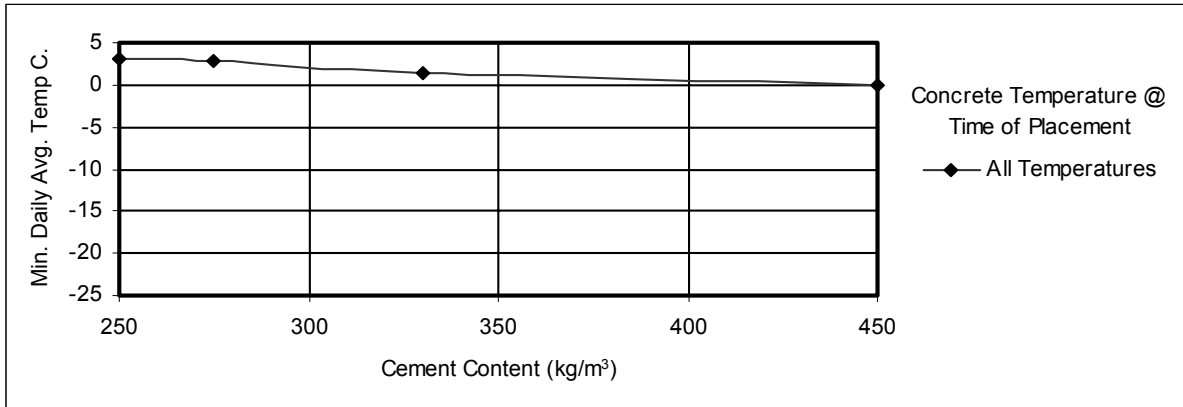
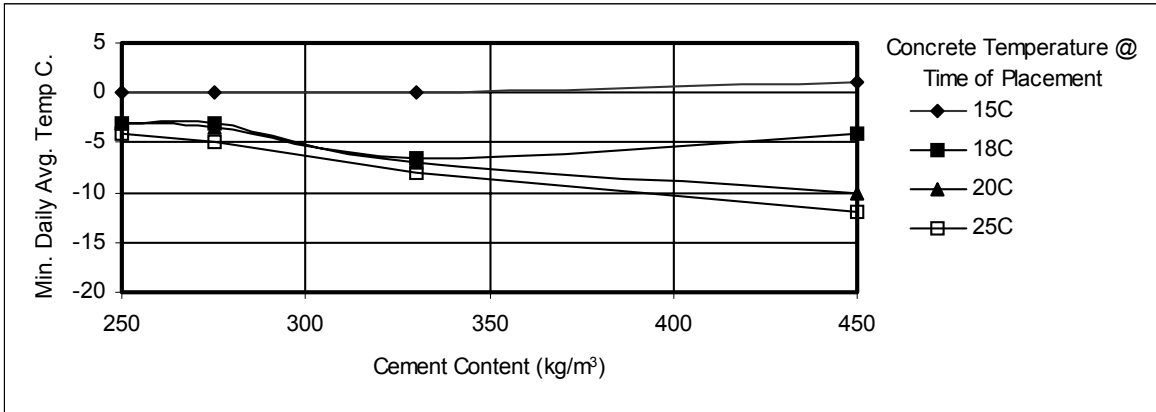
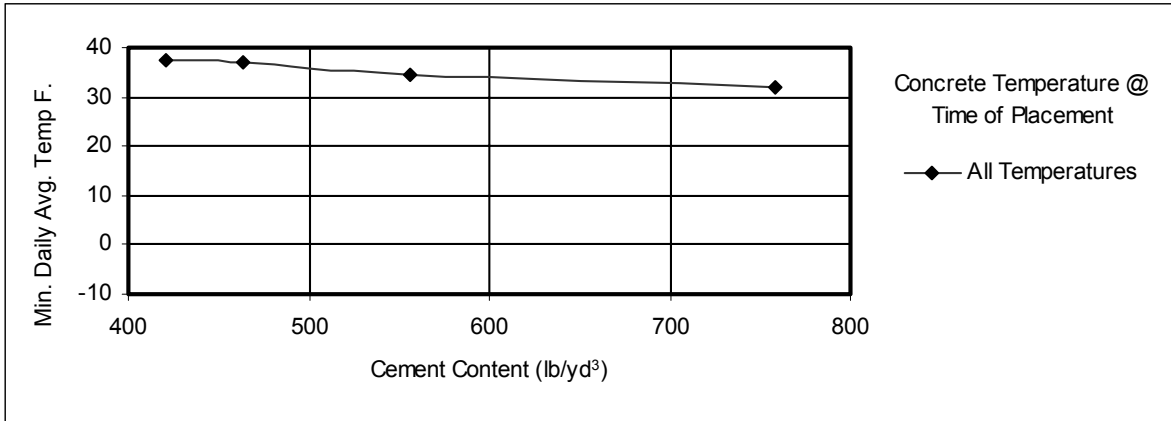

FIGURE 1 - 4" ARXX FORM, TYPE I (TYPE10) CEMENT – METRIC UNITS
FIGURE 4 - 4" ARXX FORM, TYPE III (TYPE 30) CEMENT – METRIC UNITS
FIGURE 7 - 4" ARXX FORM, TYPE I (TYPE10) CEMENT – IMPERIAL UNITS
The graphs developed using the FE model are provided as Figures 1 through 12. Figures 1 to 6 are presented in metric units and Figures 7 to 12 presents the results in imperial units. Figures 1 to 3 and 7 to 9 are for concrete using Type I (Type 10) cement. Figures 4 to 6 and 10 to 12 are for concrete using Type III (Type 30) cement.
1. Select the graph from either Figures 1 to 6 (metric units) or Figures 7 to 12 (imperial units) that corresponds to the cement type and form width that will be used on the project.